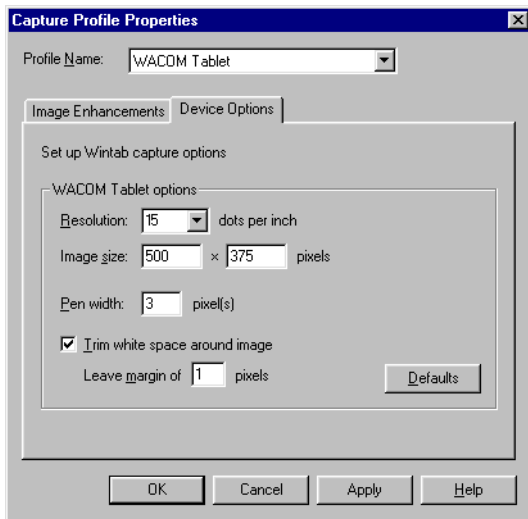

Figure 29: Device Options
- The Perform Automatic Enhancements check-box should be blank, allowing you the flexibility to edit a signature image if necessary. Click on the Device Options tab. The Device Options tab appears (see Figure 29).
- To ensure the proper aspect ratio for digital signatures, the tablet options must be set as displayed in Figure 29.